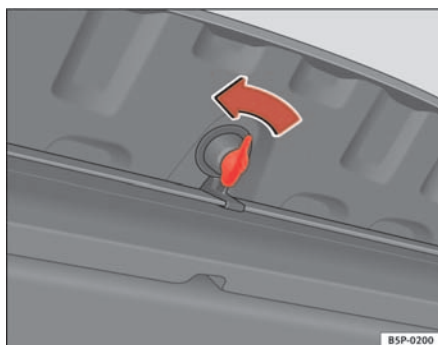

Fig. 120 Opening the storage compartment
The warning triangle is located in a stowage box under the luggage compartment cover ⇒ fig. 120. To open this storage compartment, turn the knob 90° fig.
- Open the storage compartment by turning the knob 90° ⇒ page 145, fig. 120.